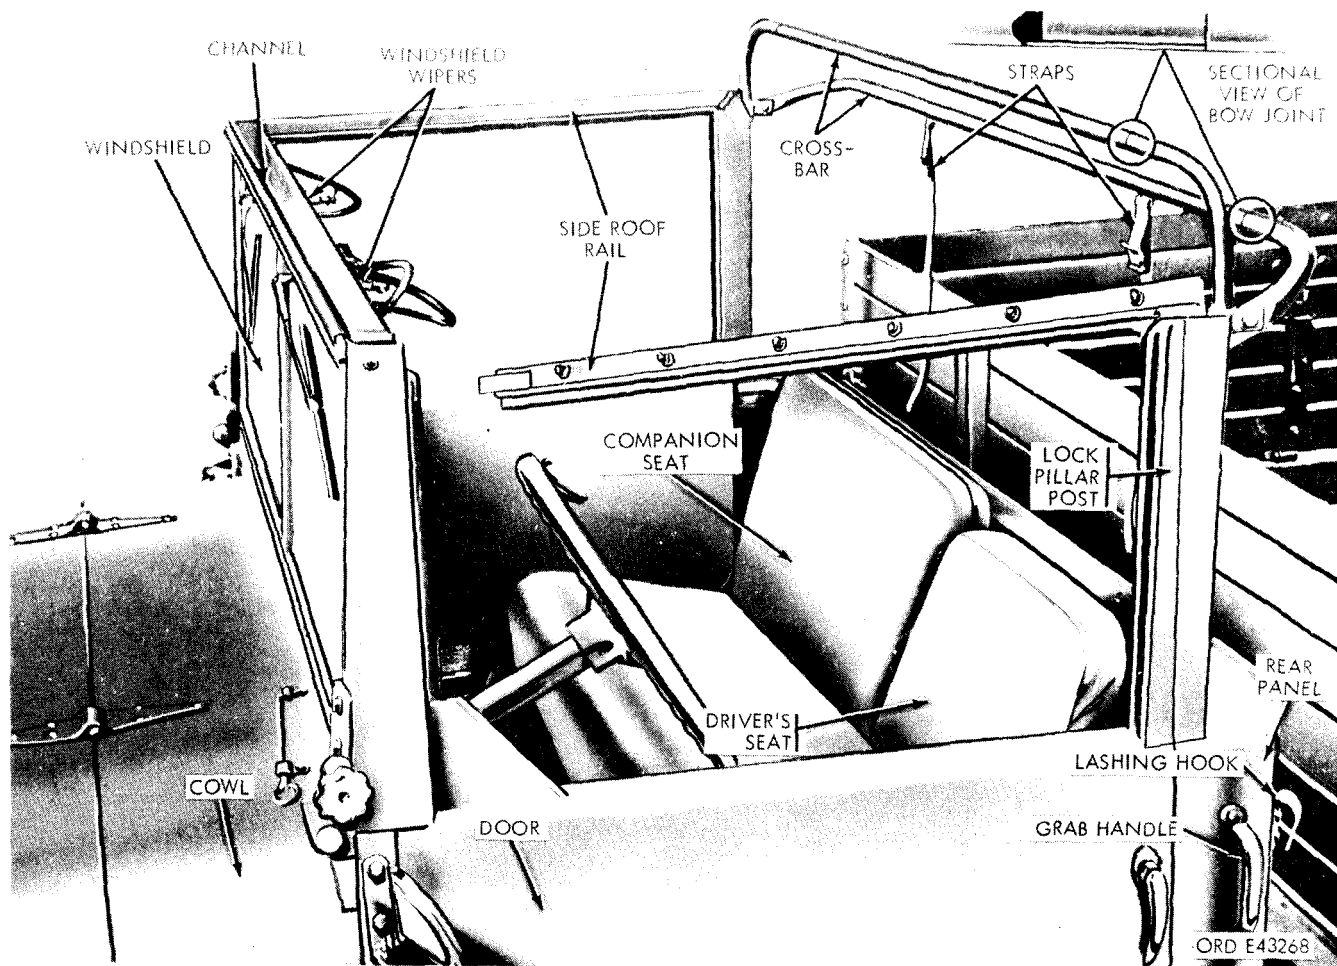

Figure 2-219. Cab with tarpaulin removed.
#### a. Removal (fig. 2-219).
- (1) Strap the crossbars and pillar posts together with straps on the rear crossbar.
- (2) Stow the assembly in (1) above behind the cab seats.
*c. Installation (fig. 2-219).*
- (1) Insert the crossbars in bows so that the crossbar with straps is to the rear bow.
- (2) Position the pillar post assembly into sockets. Tighten the thumb screws on both sides.
- (3) Raise the cab roof rails and swing them around into position.
- (4) Engage the rail front ends into the upper corner slots of the windshield frame.
*a. Removal (fig. 2-219).*
- (1) Disconnect the windshield wiper hose at the lower end of the wiper motor tubing.
- (2) Remove the eight nuts and bolts securing the windshield hinges to the cab.
- (3) Remove the windshield assembly from the vehicle.
*b. Installation (fig. 2-219).*
- (1) Position the windshield assembly to the vehicle, and secure the windshield hinge to the cab with eight bolts and nuts.
- (2) Connect the wiper hose to the wiper motor tubing.